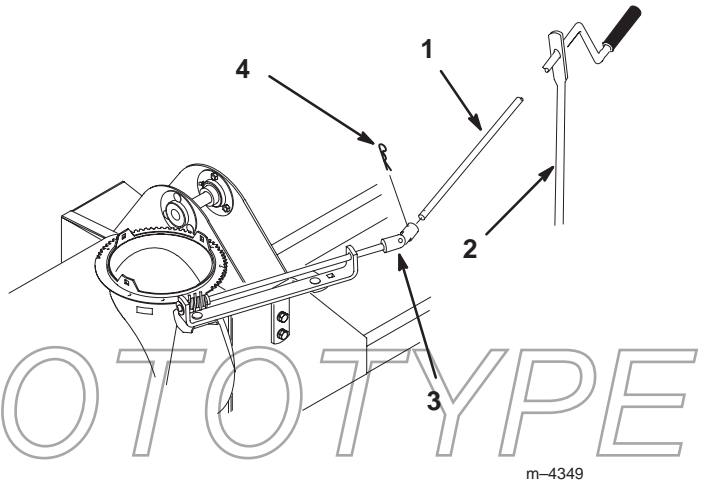

Figure 24
17. Slide the chute control rod through the hole in the end of the crank support and connect the end of the chute control rod to the universal joint on the snowthrower with a medium hairpin cotter (Fig. 24).